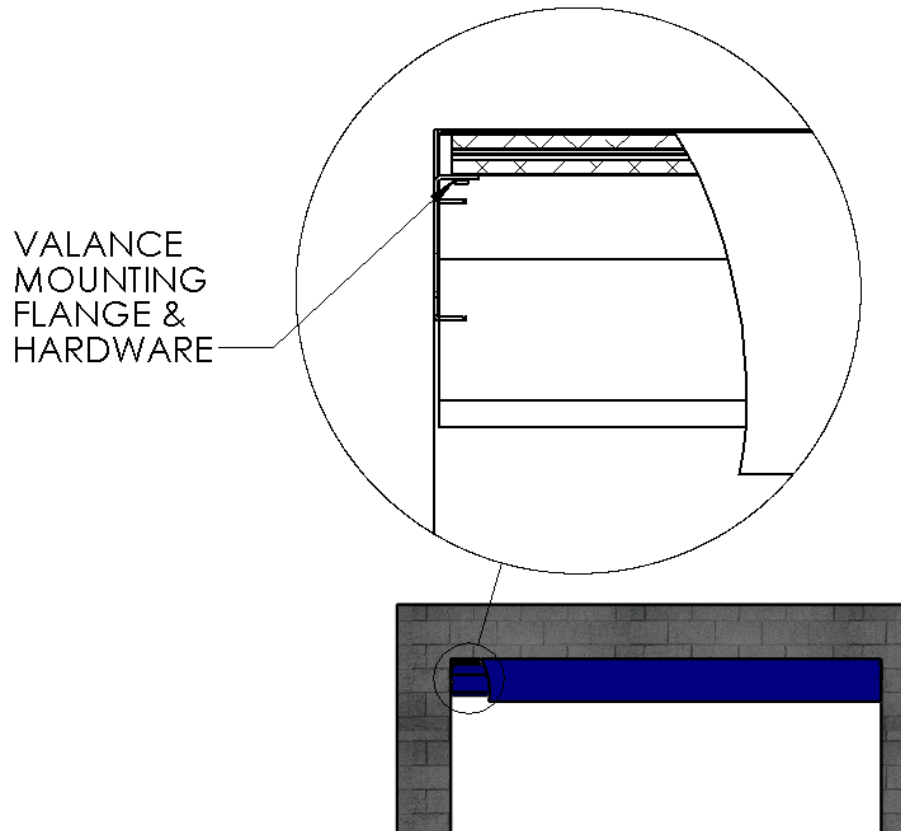

Figure 7 INSTALL VALANCE ASSEMBLY
1. Install the Valance Assembly onto the top of the bent flanges of the installed Header Mounting Brackets using the hardware provided in the Valance Beam. (Figure 7 INSTALL VALANCE ASSEMBLY)